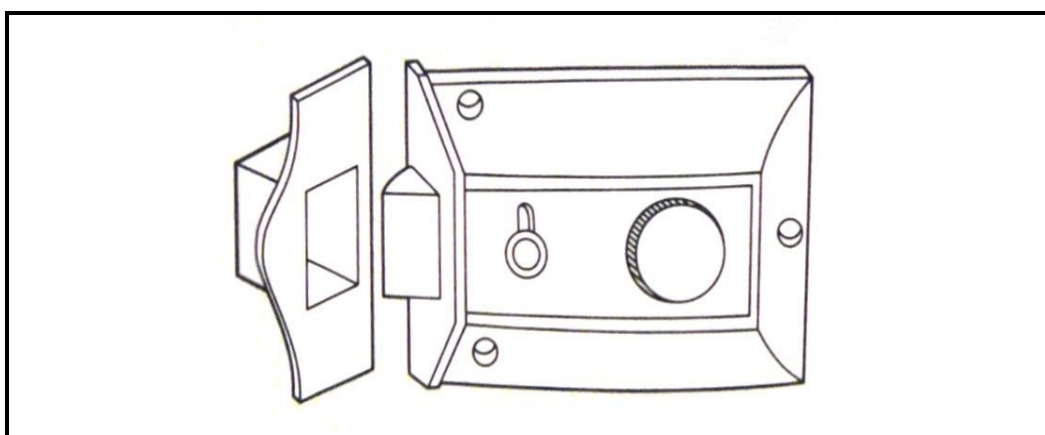

FIGURE 6.3
6.3 FIGURE 6.3 below shows a sketch of a lock. Study the sketch and answer the questions that follow.